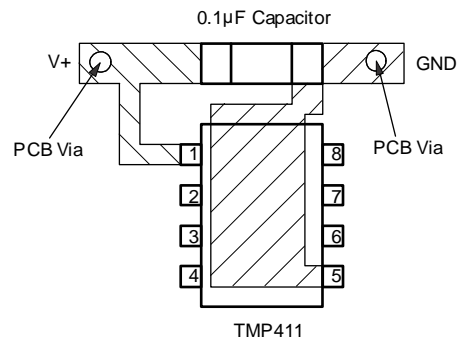

Figure 22. Suggested Bypass Capacitor Placement
- Use a 0.1-μF local bypass capacitor directly between the V+ and GND pins of the TMP411, as shown in Figure 22. Minimize filter capacitance between D+ and D– to 1000 pF or less for optimum measurement performance. This capacitance includes any cable capacitance between the remote temperature sensor and the TMP411.